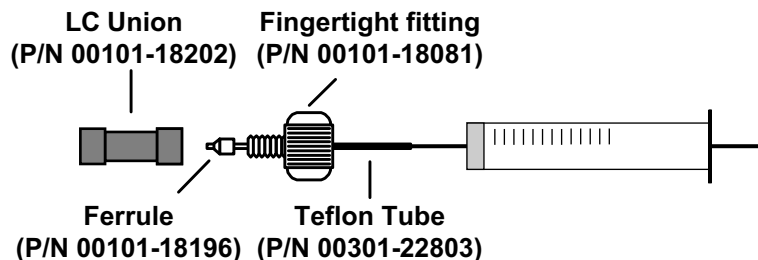

Figure 3-1. Plumbing connections for the syringe
1. Connect a 4 cm (1.5 in.) segment of Teflon[®] tube with a (brown) fingertight fitting and a (brown) ferrule to the (black) LC union. See Figure 3-1.